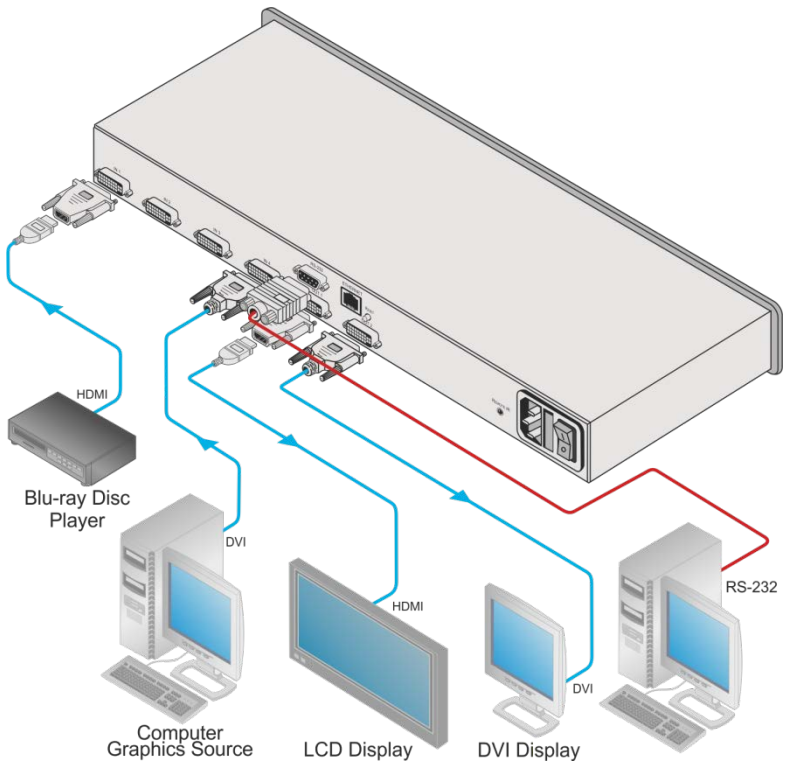

Figure 3: Connecting to the VS-42HDCP Rear Panel
**To connect the VS-42HDCP as illustrated in the example in Figure 3:**
4. Connect the power cord (not shown in Figure 3).